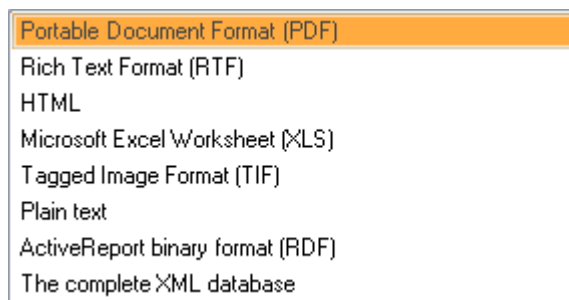

Figure 6-101. Report formats
9. In the column **Format**, click  to open the drop-down menu, see Figure 6-101.